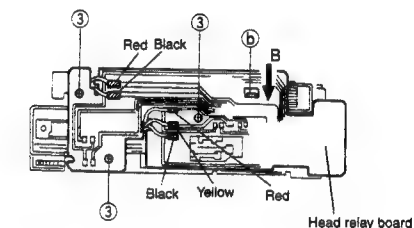

Fig. 11
1. Desolder the lead wires of the loading motor at the 2 positions shown (red, black). (Fig. 11)
2. Desolder the lead wires of the head at the 3 positions shown (red, yellow, black). (Fig. 11)
3. Remove the three screws ③ securing the head relay PCB. (Fig. 11)
4. Shift the interlocking section ④ securing the head relay PCB in the direction shown by the arrow B to remove the PCB. (Fig. 11)